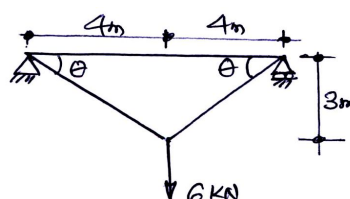

Fig.Q8
- 8 Determine the vertical and horizontal deflection of the point C, of the pin jointed frame shown in Fig.Q8. The cross sectional area of AB = 100 sqmm and BC and AC are 150 sqmm. Take $E = 2 \times 10^5 \text{ N/mm}^2$.